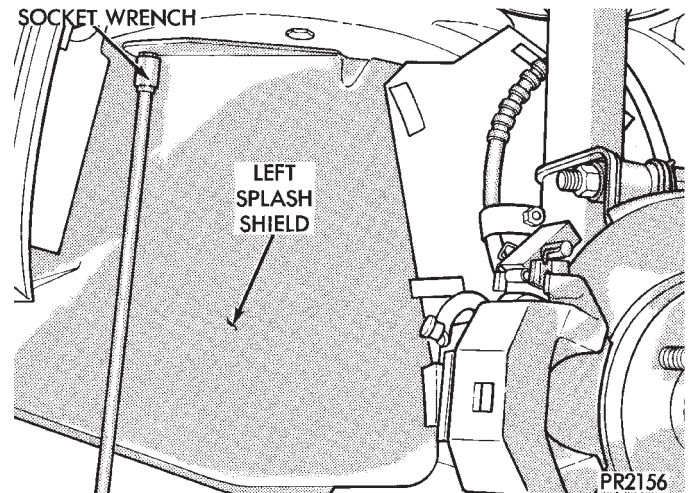

Fig. 2 Remove Left Splash Shield
(5) Remove bell housing upper bolts.
(6) Raise vehicle. Remove front wheels. Refer to "Suspension, Group 2" to remove wheel hub nut and both drive shafts.
(7) Remove left plastic splash to gain access to the transaxle (Fig. 2).